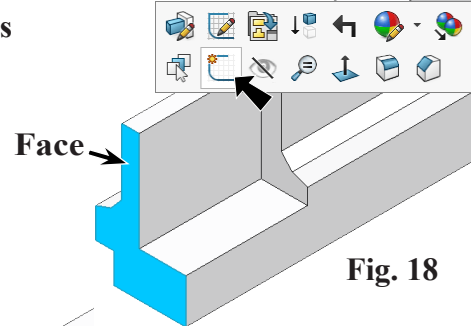

Fig. 18
Step 1. Click the **front face** and click **Sketch**  on the context toolbar, **Fig. 18**.